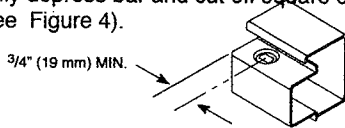

Figure 2
- A. Installation of device depends on trim: Note  $\frac{3}{4}"$  (19 mm) minimum restriction (See Figure 2).